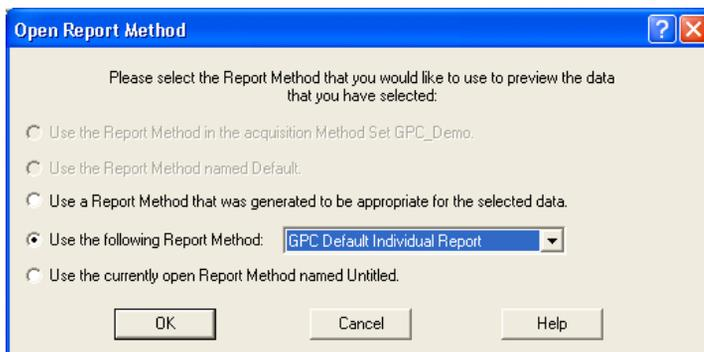

Figure 4-7 Specifying a Report Method
2. Select a **Broad PS** result, then click **Preview/Publisher**. The Open Report Method dialog box appears (Figure 4-7) and prompts you to specify a report type method to use when displaying a report.